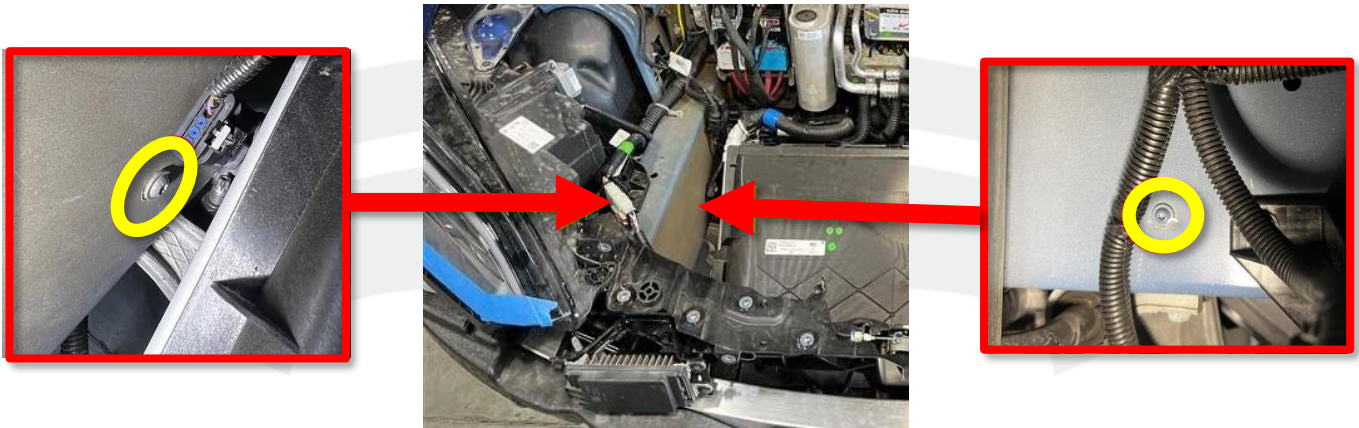

Figure 1 – Bolt locations, RH front frame rail
2. Tighten the T25 bolts (x2) that attach the inner and outer threaded inserts on the RH front frame rail (Figure 1) (torque 7 Nm).